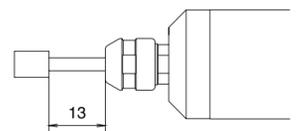

Fig.14
- Do not exceed 13mm overhang for mounted grindstones. In case overhang must exceed 13mm reduce the motor speed in accordance with Fig.14.